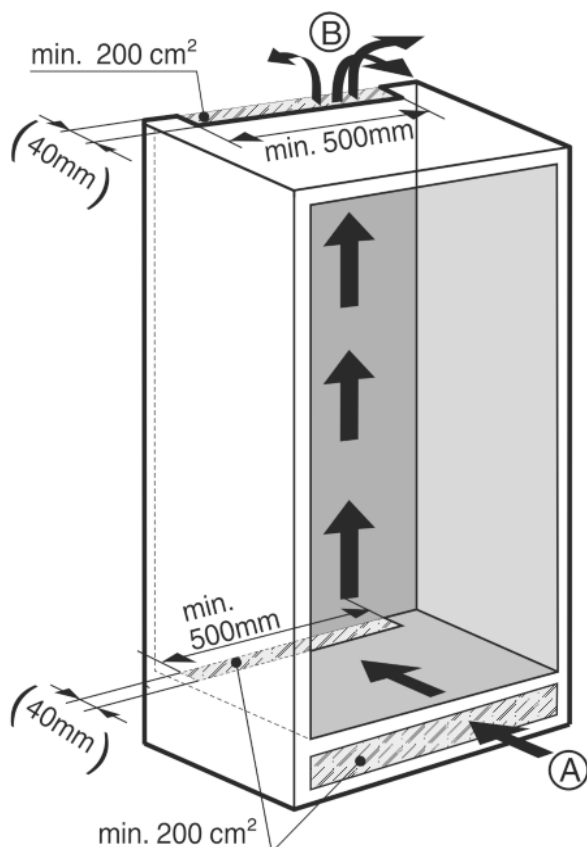

Fig. 3
- There must be an effective ventilation shaft of at least 200 cm2 per appliance at the air inlet Fig. 3 (A) and outlet Fig. 3 (B) vent.